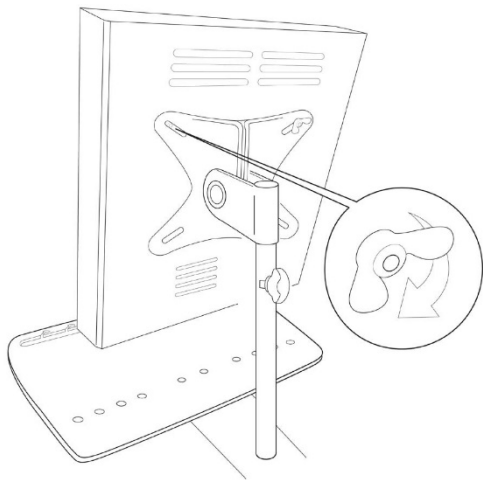

Figure 9: Mounting the LASERNEEDLE Touch device on the trolley
- iii. Use all four wing nuts to secure the device to the trolley. Turn the wing nuts clockwise to tighten them (Fig. 9).